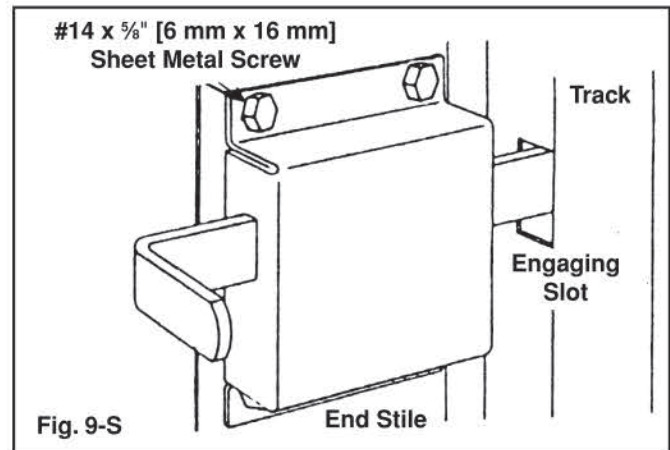

Fig. 9-S
- Inside Slide Bolt (FIG. 9-S)
1. Attach the side lock assembly to the second section. Unless otherwise specified, this stile will be located 18" [457 mm] in from the right hand side of the door (inside facing out). Secure the lock cylinder #2 with the two long machine screws as illustrated. Attach the handle (1) and inside lock mechanism (7), using the fasteners provided.
3. The inside slide bolt is installed on the end stile of the second section so the slide bolt rests against the top of one of the rectangular engaging slots in the vertical track. Details are shown in Figure 9-S.
Attach horizontal track to vertical bracket using $\frac{1}{4}$ " x $\frac{5}{8}$ " [6 mm x 16 mm] track bolts and flange nuts. Attach horizontal angle to vertical bracket using $\frac{3}{8}$ " x $\frac{3}{4}$ " [10 mm x 19 mm] carriage bolts and flange nuts. Rig a temporary rope to support back of horizontal tracks. They should be level (parallel) to 1" [25 mm] higher in the back when completed. Install top section now to other sections. Refer to Figure 9-S, page 12. (FIG. 5-T)
Lower door and push track towards jambs until door is tight against stop or steel jambs and tighten track bolts. Adjust top brackets. (Figure 9-S, page 12) Install inside side slide lock or lock bar (Figure 7-S & 8-S, page 12) after spring is wound. Nail door stop in place if applicable.